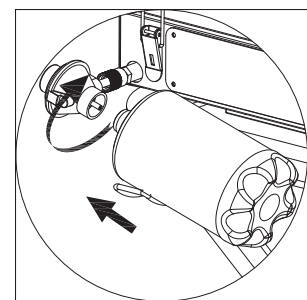

Figure 4
2. Rotate LP gas tank counterclockwise until it is detached (Figure 4).